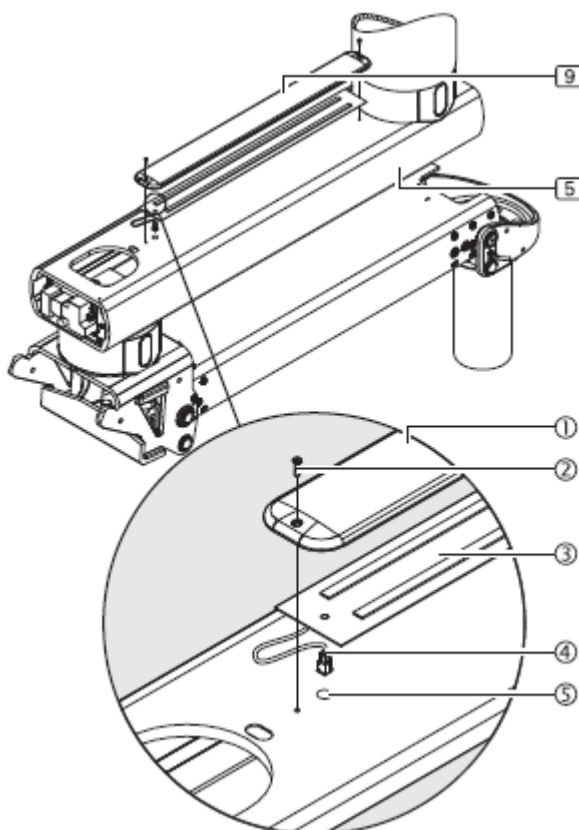

Fig. 35 Mounting of indirect lighting module
The indirect lighting (9) of the extension arm (5) (lengths from 800 mm and 1000 mm for the XL model) is mounted on the upper part of the arm. Figure 35 shows a simplified representation with only the extension arm and spring arm (5) without pre-assembled cables.
- Pass the connection cable ④ of the basic holder with LED ③ through the mounting opening ⑤ to the extension arm without bending it.
- Place the cover ① on the basic holder with LED ③ and screw it on with 2 countersunk head screws M4 x 16 mm ② - DIN EN ISO 10642.
- Check that the extension arm lighting (9) is properly positioned and level with the extension arm, that the connection cable (4) is on the extension arm and that the screws are tightened securely.